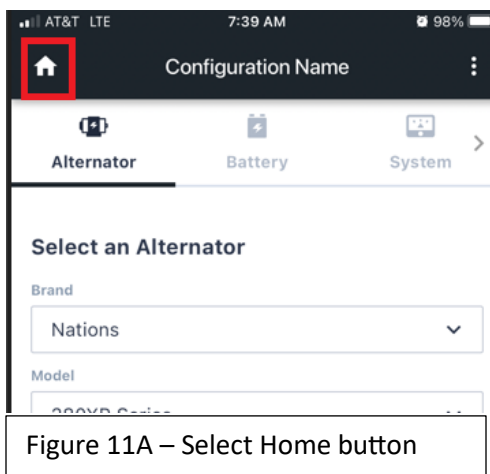

Figure 11A – Select Home button
12. Input the settings shown below in Figures 11A, 11B, 11C, 11D, 11E & 11F.